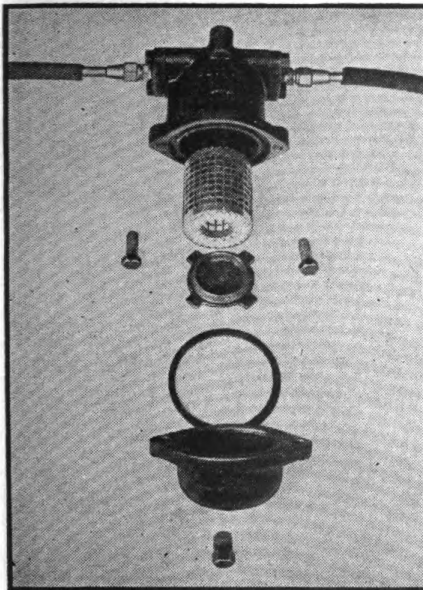
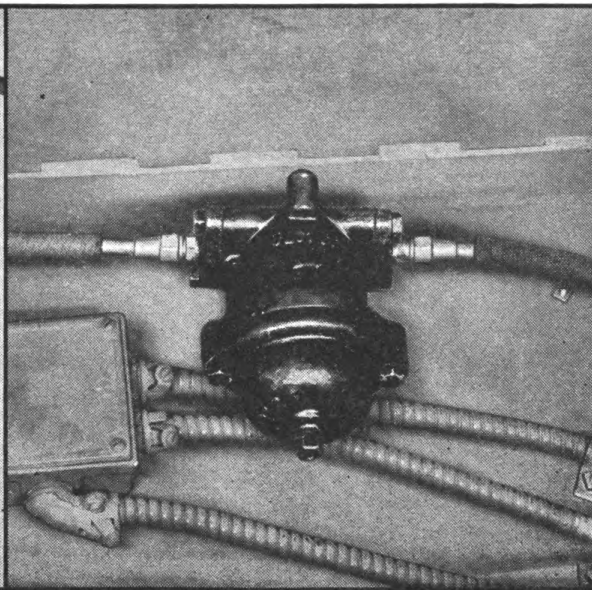

FIGURE 45. AIR FILTER—
FIGURE 44. AIR FILTER.
17. **AIR FILTER.**—*a. Function* (Fig. 44).—Air filters are mounted on underside of semi-trailer main frame, toward rear of unit near axle, one filter in service line and one in emergency line. Filter is designed to remove dirt, water, and oil from air, thereby increasing the life of the functional parts of the emergency relay valve.
c. Disassembly.—(1) Disconnect the lines leading into the filters. Remove the two bolts holding filter to bracket.
(2) Remove the two cap screws (1) holding cup (2) to upper section of filter. Tap down on cup, separating cup from upper section.
(3) Remove rubber gasket (3); remove cleaner seat (4) and pull out cleaner (5) (Fig. 45).